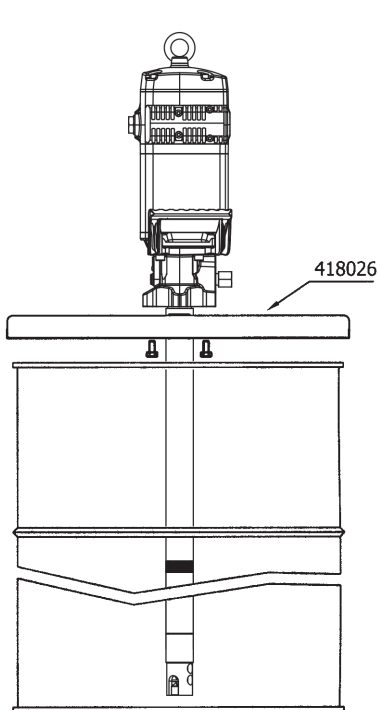

Fig. 1
- a.** Mounting with reinforced cover (418026 for 185 kg drum). Insert the pump through the cover and fasten it with the enclosed screws. Insert the pump through the bung opening and fasten the cover onto the drum firmly (see figure 1).